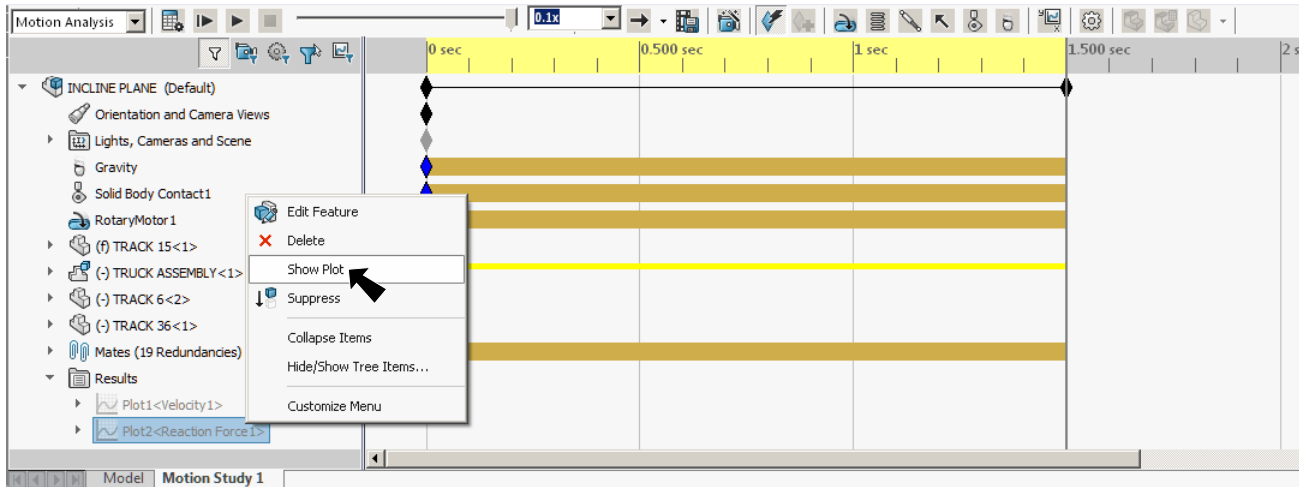

Fig. 11
Step 1. What's the Force? Expand **Results** folder at bottom Motion Manager design tree, **right click Plot2 Reaction Force2** and click **Show Plot** from menu, **Fig. 11**.